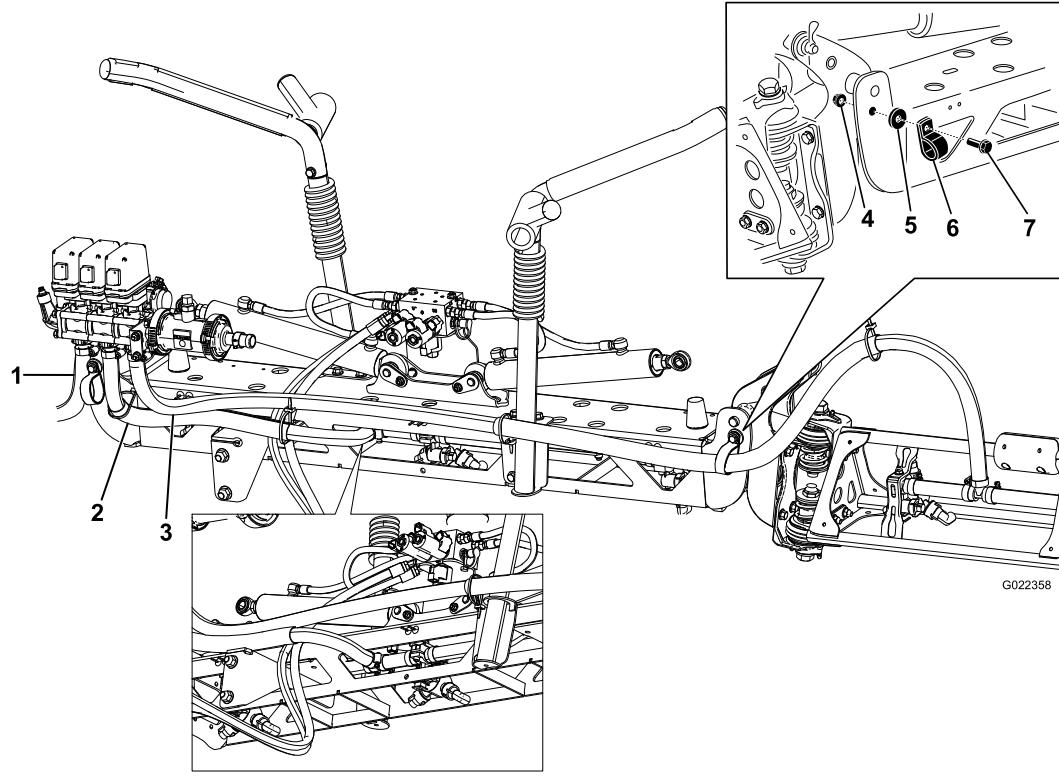

Figure 23
1. Route the boom hoses as shown in Figure 23.
Note: Secure the hoses and R-clamps with a shoulder bolt, a washer and a nut as shown in Figure 23.